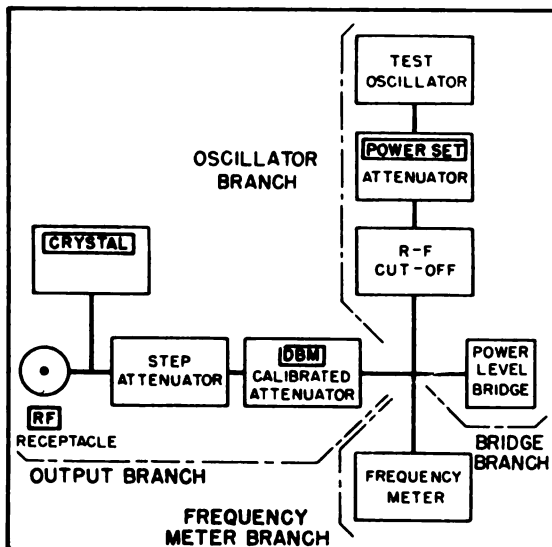

Figure 2-2. Simplified Block Diagram Showing Plumbing Branches
b. The output of the test oscillator is controlled directly by means of the Power Set attenuator and the Test r-f cutoff control. The Power Set attenuator provides adjustment of the signal level applied to the thermistor bridge. The Test r-f cutoff control is a waveguide switch which prevents transmission of r-f energy from the oscillator branch to the other three plumbing branches shown in figure 2-2.
branch, the bridge branch and the frequency-meter branch. The four branches described are designated in figure 2-2 and will be referred to by these names in locating components in the descriptions which follow.
(a) The frequency-meter assembly consists of the frequency-meter resonator and dial together with a tee section of waveguide which contains the r-f cutoff. The tee section connects the assembly to the three other branches of the plumbing indicated in figure 2-2. The r-f cutoff is a metal slide which opens and closes the opening of the oscillator branch at the junction of the tee.